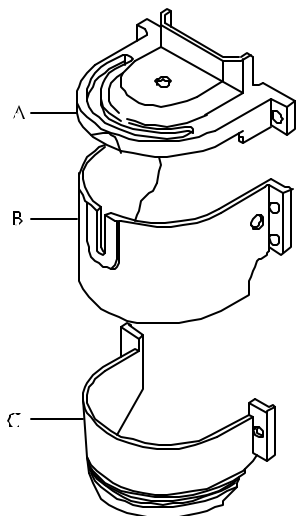

Figure 2
- Using a 3 mm Allen wrench, **remove** 6 screws and B and C Sewing Head Covers. See *Figure 2*.